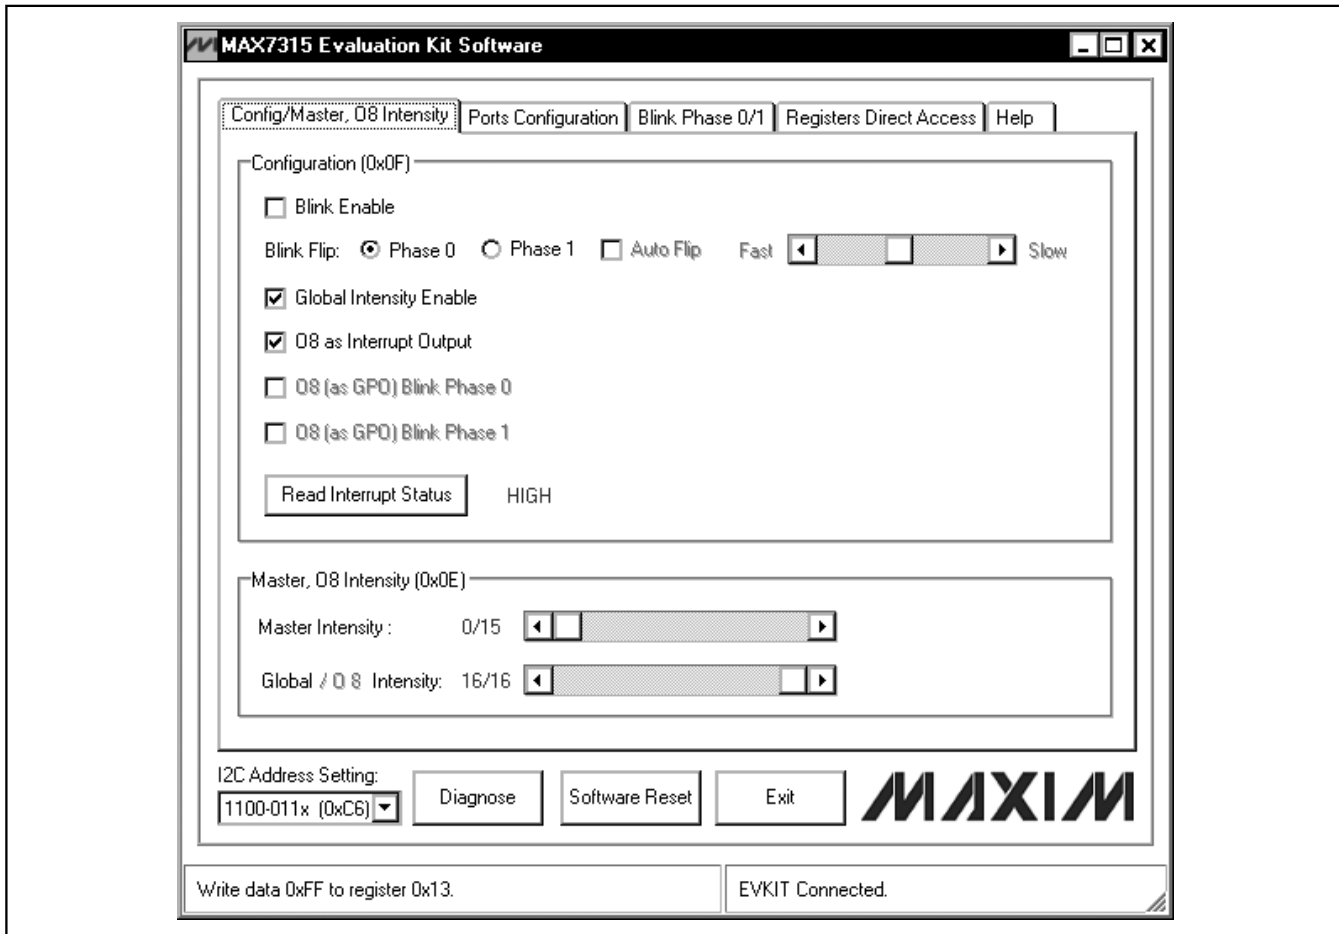

Figure 1. MAX7315 Evaluation Software Main Window (Config/Master, O8 Intensity Tab)
- 11) Start the MAX7315 EV kit software by opening its icon in the **Start** menu. The GUI main window appears, as shown in Figure 1.
To start the MAX7315 EV kit software, double-click the MAX7315 EV kit icon created during installation. The GUI main window appears, as shown in Figure 1. Wait approximately two seconds while the MAX7315 EV kit software connects to the CMAXQUSB board.
The **Config/Master, O8 Intensity** tab shown in Figure 1 contains the **Configuration (0x0F)** group box and the **Master, O8 Intensity (0x0E)** group box.